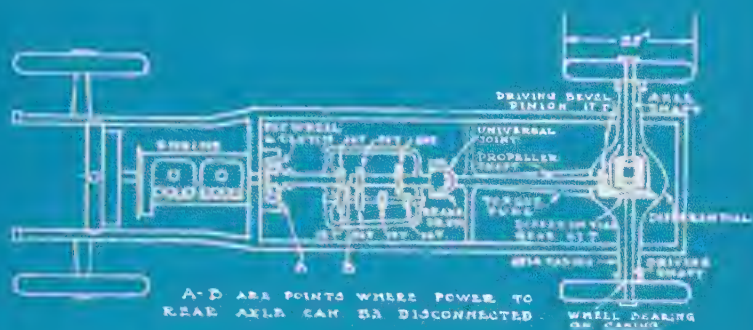

FIG. 1.
In fig. 1, page 17, find the M.P.H. for the following speeds:
8. In fig. 1, find the rear axle ratio, transmission ratio and total gear reduction when the engine is running 2000 R.P.M.